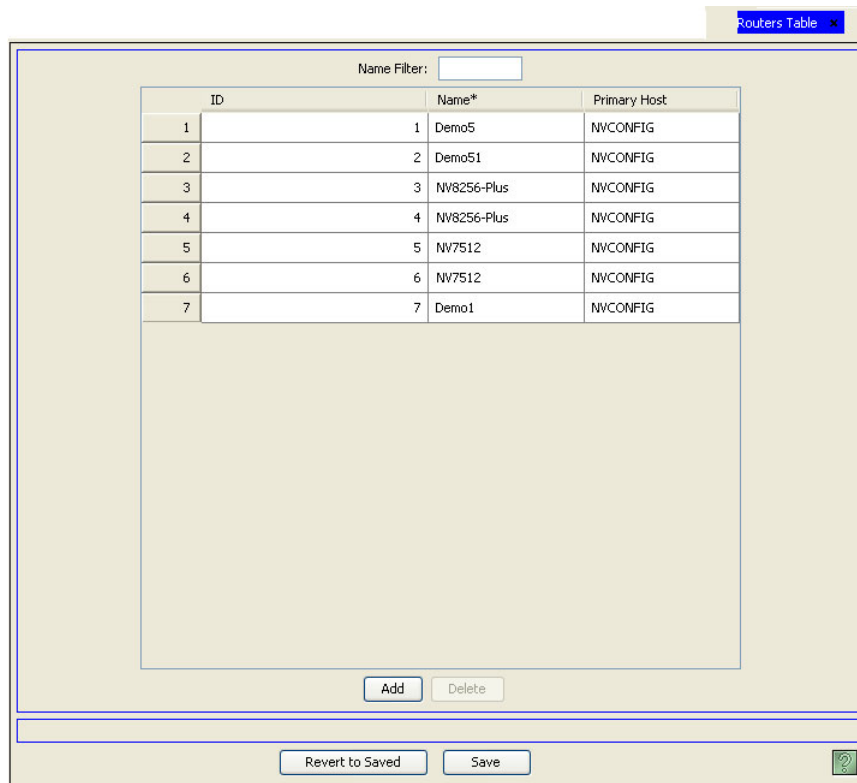

Figure 7-38. Routers Table
- 2 From the Navigation area, select the 'Views' pane and then 'Routers'. The 'Routers' table appears, as shown in Figure 7-38.